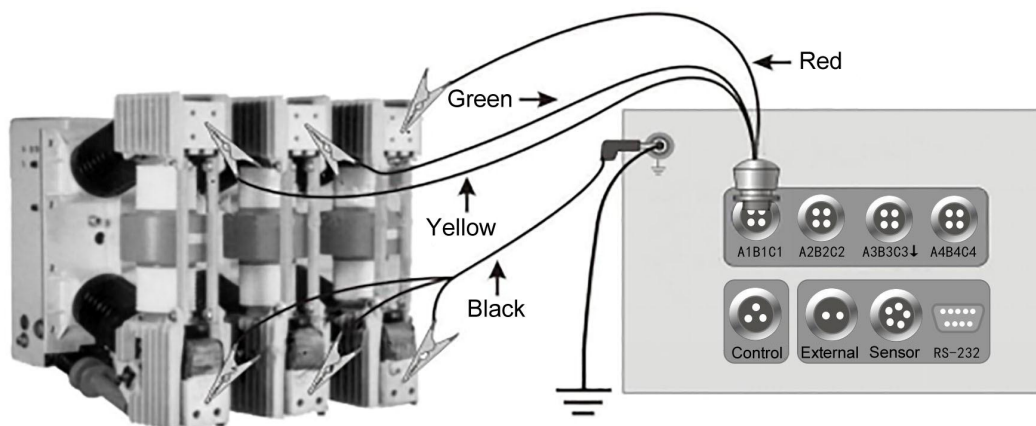

Figure 9. Three switches wiring
①Three switches wiring of circuit breaker is shown in Fig 9.
Solution: After shutting down, refer to the above figures 9 and 10 to re check the wiring.